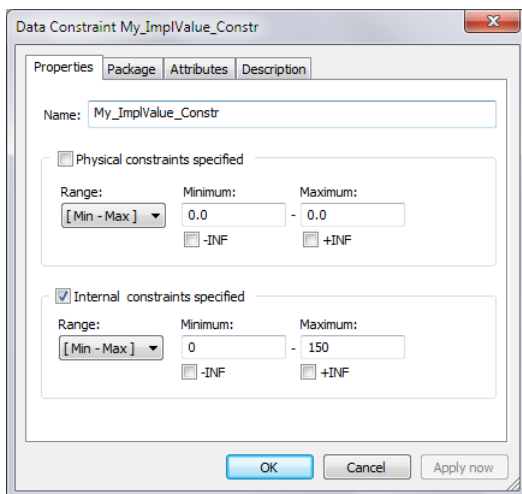

Figure 4-57 Implementation type constraint
- ▶ It is also optionally possible to set a constraint to the implementation data type, which is done in My_ImplValue_Constraint (see Figure 4-57). It is set here that the internal values are limited to the range [0;150].